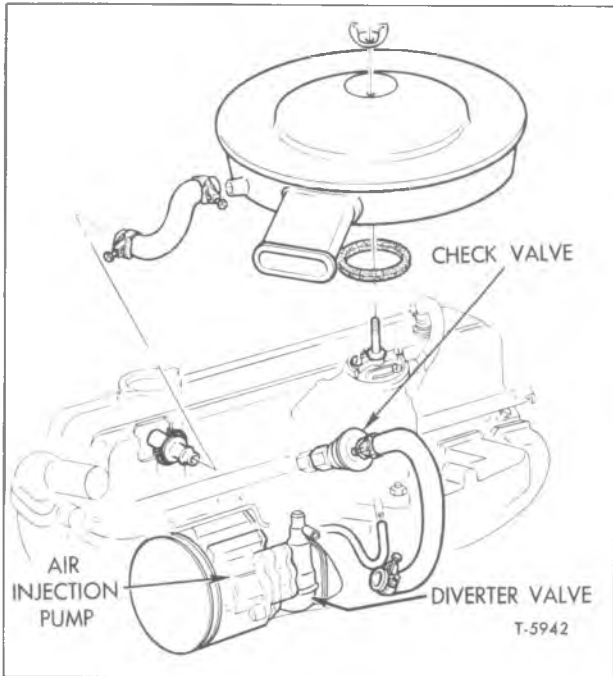

Figure 32—Air Injection Reactor System
**NOTE:** The A.I.R. system (figs. 32 and 33) is found only on In-line engines, covered by this manual, sold in the state of California.
Inspection (Refer to Fig. 32)